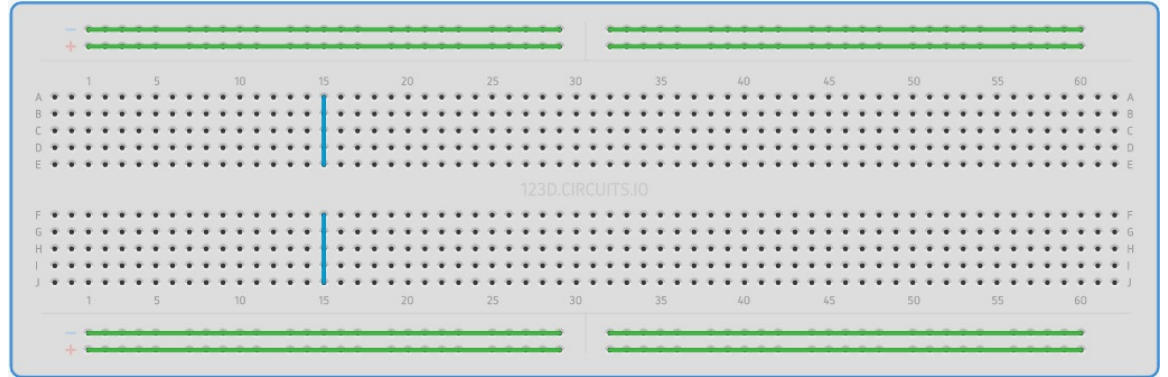

Figure 2.1:
1. Plug the display to the breadboard in Fig. 2.1 and make the connections in Table 2.2.